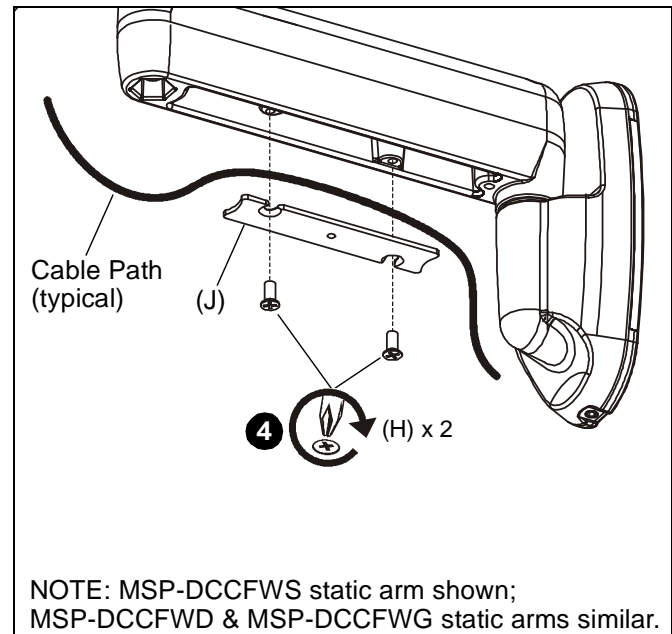

Figure 11
6. Carefully insert cables in cavity located in lower portion of mount arm. (See Figure 11)
7. Using Phillips screwdriver, install cover (J) with two screws (H). (See Figure 11)